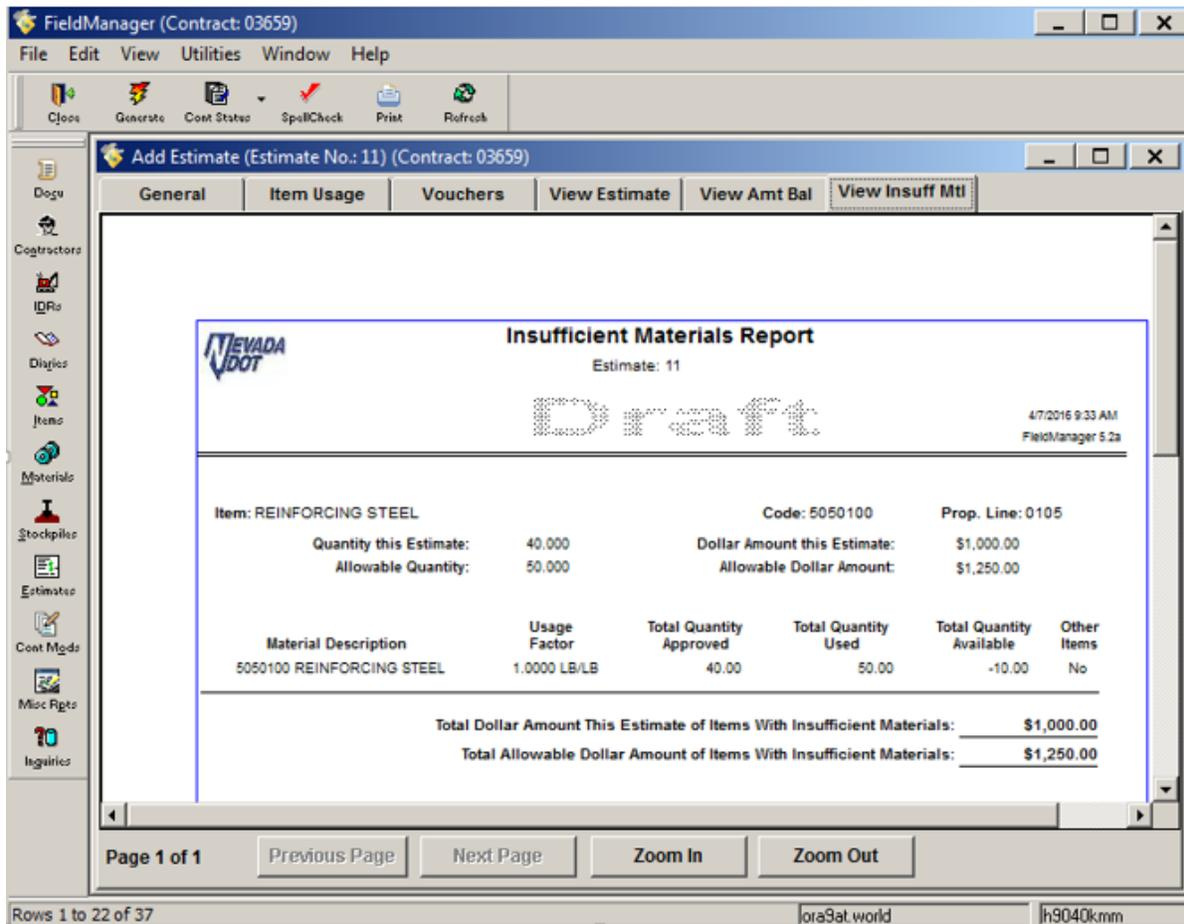

Figure 11-11. Add Estimate Tab Window – View Insuff Mtl Tab
- Click the **View Insuff Mtl** tab (Figure 11-11). The Insufficient Materials Report opens.